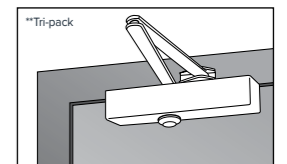

Figure 61 Transom Mount Push Side** Fixing
- Figure 61 Transom mount push side (where the closer body is mounted on the transom on the push side of the door).